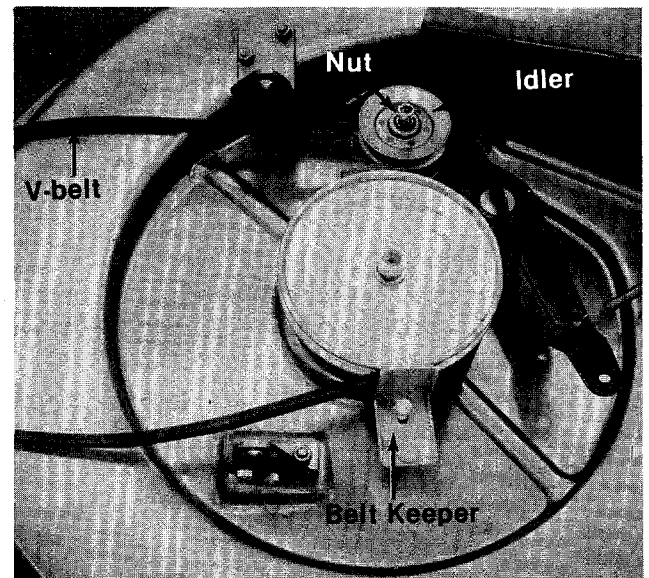

FIGURE 49.
3. Remove the belt keeper on the cutting deck. See figure 49.
4. Remove the nut from the idler on the cutting deck and remove the idler. See figure 49.